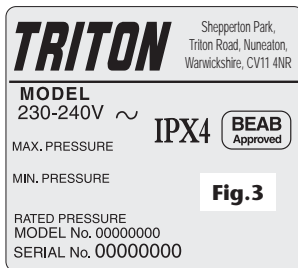

Fig.3
- 1.1** The electrical rating of the shower is shown on the rating label (**Fig.3**) within the unit.